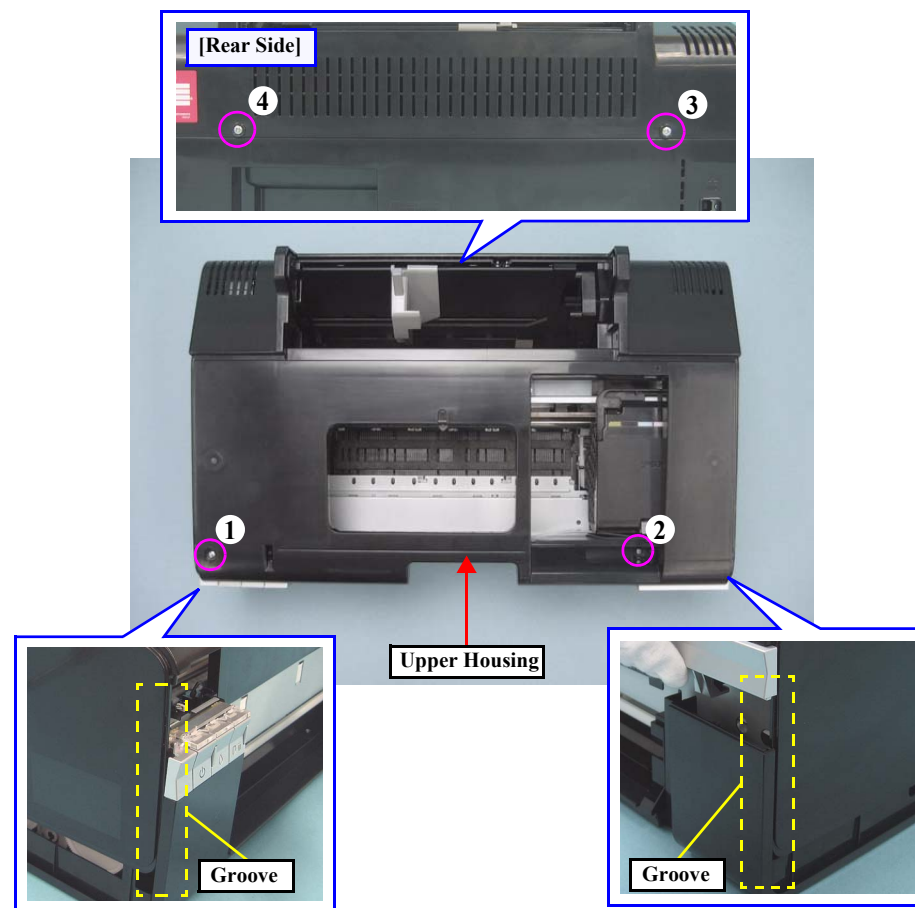

Figure 4-14. Removing the Upper Housing
- Tighten the screws in the order given in Fig.4-14 \(p.62\).
- Match the ribs of the Upper Housing shown in Fig.4-14 \(p.62\) with the grooves of the Lower Housing.